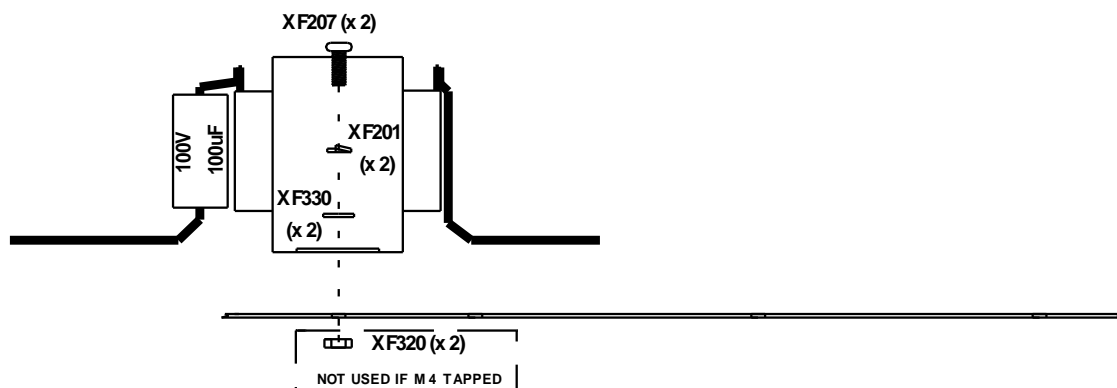
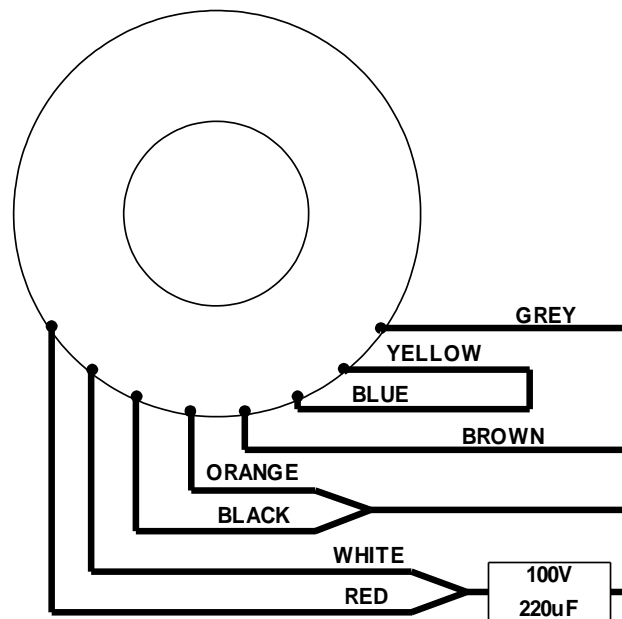
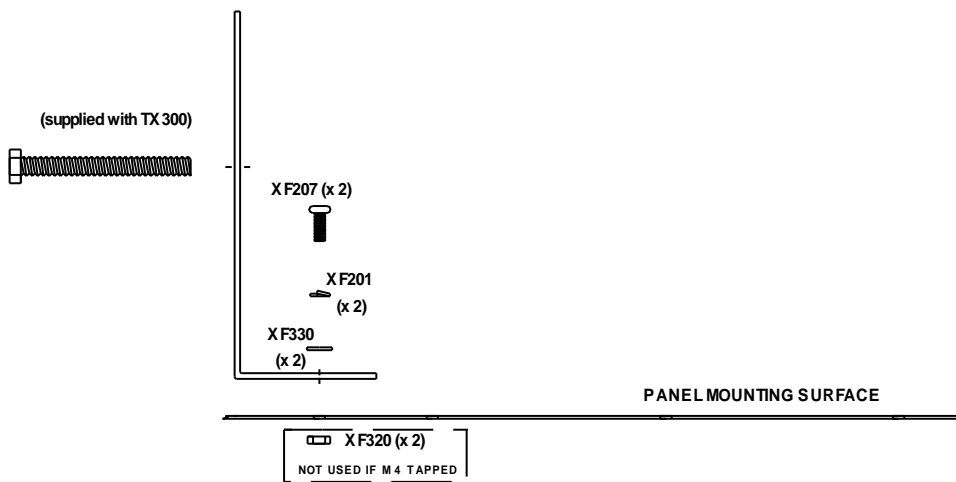
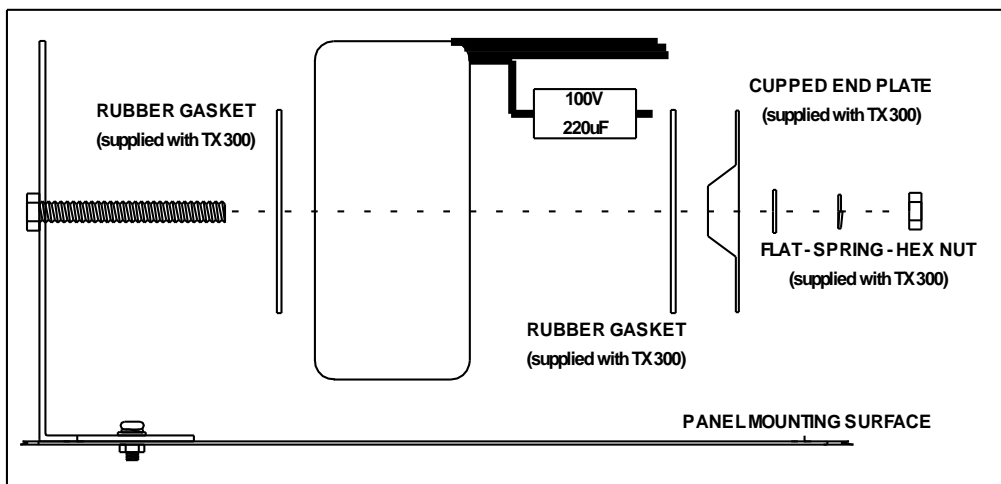

Figure 16 Audio transformer fitted in existing panel
Figure 17 150W/100V Audio transformer wiring
Figure 20 Step 1 fixing mounting bracket onto existing panel
Figure 21 Step 2 mounting 150W transformer onto bracket
3. Mount the 60W transformer as shown in figure 16
1. Solder 220uF/100V capacitor and leads to the Audio Transformer (TX300) (see Figure 17).
If 150W transformer is used, refer to section 4.6 on page 25, Figure 20 on page 26 and Figure 21 on page 26.
2. Figure 16 on page 24. For 150W transformer, refer to section 4.6.2 on page 26 Figure 17 on page 25, Figure 20 on page 26 and Figure 21 on page 26